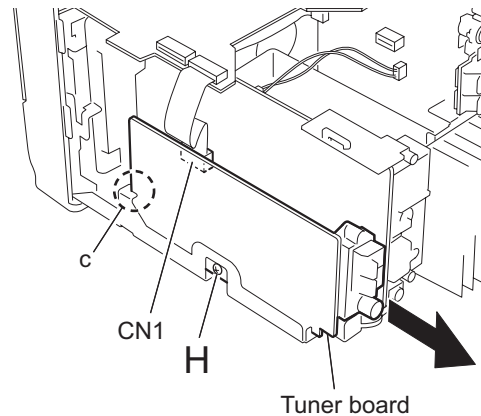

Fig.11
2.1.5 Removing the tuner board (See Fig.11)